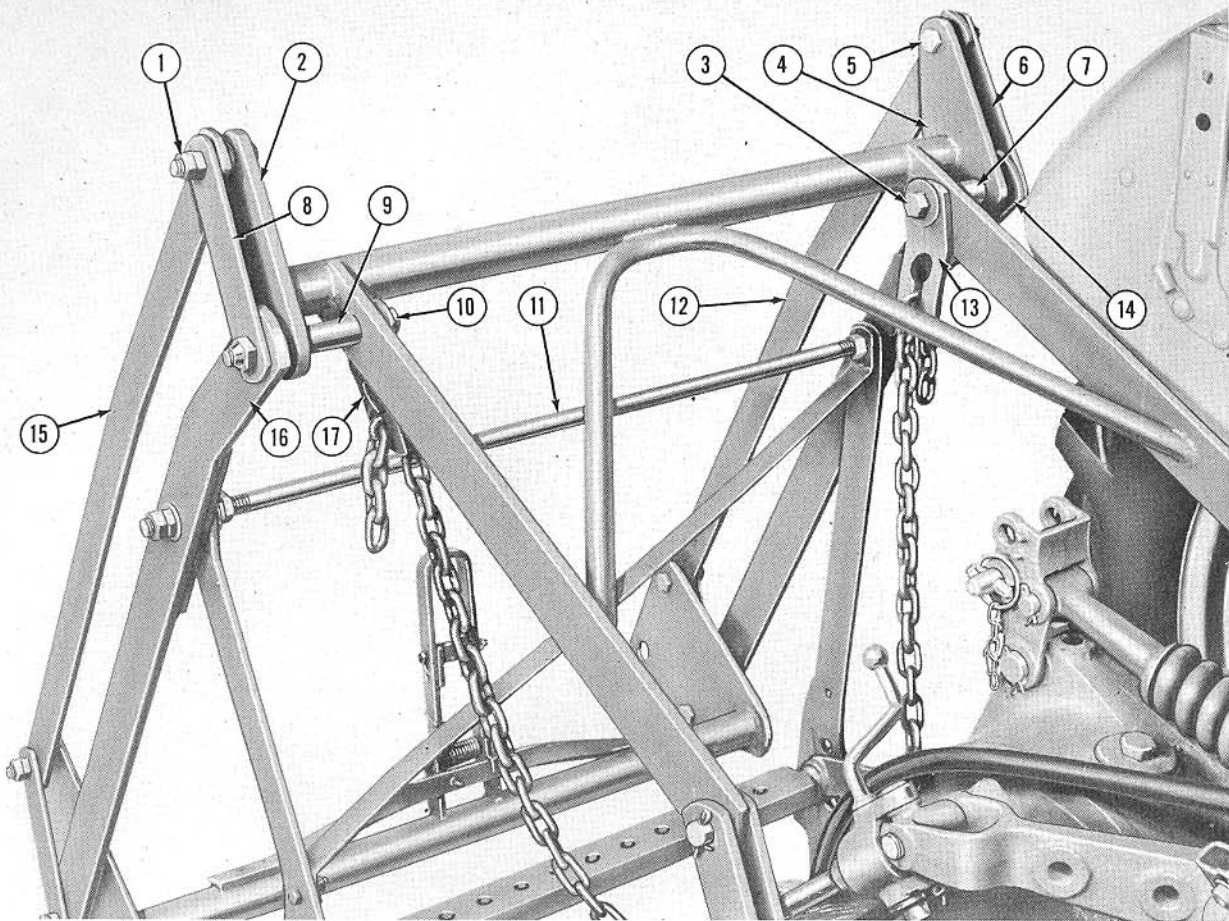

Figure 6
- Place two $\frac{3}{4}"$ flat washers and two chain attaching links (13) and (17), Figure 6, on the two $\frac{3}{4}" \times 6\frac{1}{2}"$ bolts (3) and (10) and insert the bolts (from inside out) through each side of the upper link frame as shown. Place the $\frac{3}{4}" \times 3\frac{1}{2}"$ spacers (7) and (9) on each of the bolts (3) and (10) as shown in Figure 6 and slide the bolts on through the frame brackets (2) and (4). Lubricate each spacer with a good grade of gun grease.
- Raise the tie rod (11), Figure 6, and strut assembly and place the curved end of the lower control arms (14) and (16) and a locking link (6) and (8) on each of the bolts (3) and (10) as shown and secure each with a torque prevailing lock nut.
- Insert the $\frac{5}{8}" \times 2\frac{3}{4}"$ bolts (1) and (5), Figure 6, through the top hole in each frame bracket (2) and (4) as shown. Place a $1\frac{3}{16}"$
x 1" spacer on each bolt and lubricate them with a good grade of gun grease. Position the upper control arms (12) and (15) so the bent end is up and pointing toward the direction of travel as shown in Figure 6, and place them on the spacers. Slip the free end of the upper locking links (6) and (8) on the bolts (1) and (5) and secure with the nuts and jam nuts provided.